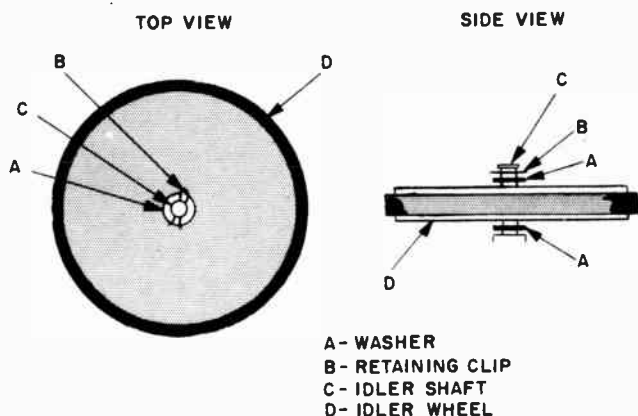

Fig. 315. Idler wheel mounting. The assembly is kept in place by a retaining clip.
2. The idler wheel (see Fig. 315) is mounted freely on a vertical shaft and is usually held in place by a retaining ring or clip. In most record changers, washers (usually felt) are used at the top and bottom of the wheel. The retaining ring or clip can be snapped out of the groove at the top of the shaft and the idler wheel can then be lifted off. Place the washers in a safe place so that they will not be lost.